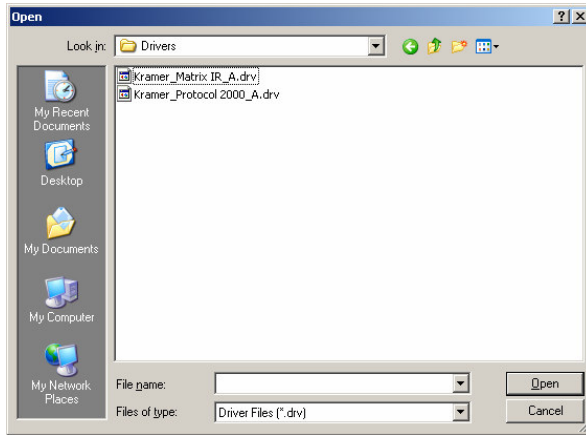
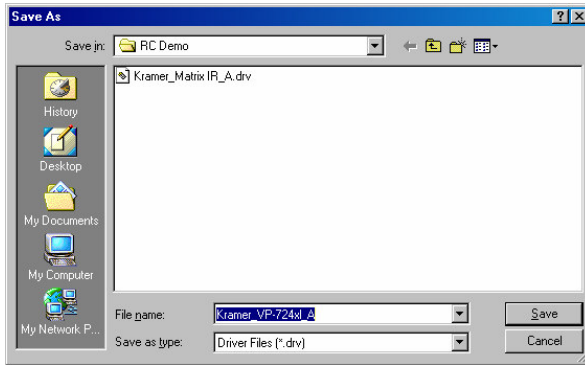

Figure 4: Importing a Kramer Driver File
Figure 5: Exporting a Kramer Driver File
- Import one or more drivers (Import Drivers..., see Figure 4), or export an existing driver (Export Driver..., see Figure 5)